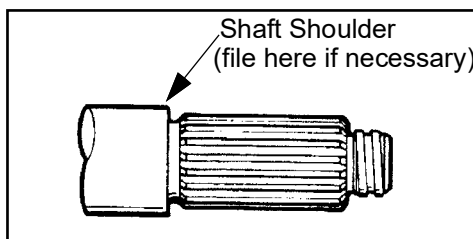

Figure 47 - Shaft Shoulder
3. If the shaft shoulder has a sharp edge, remove the edge with a file to prevent cutting the shaft O-ring when disassembling the seal seat. See Figure 47.